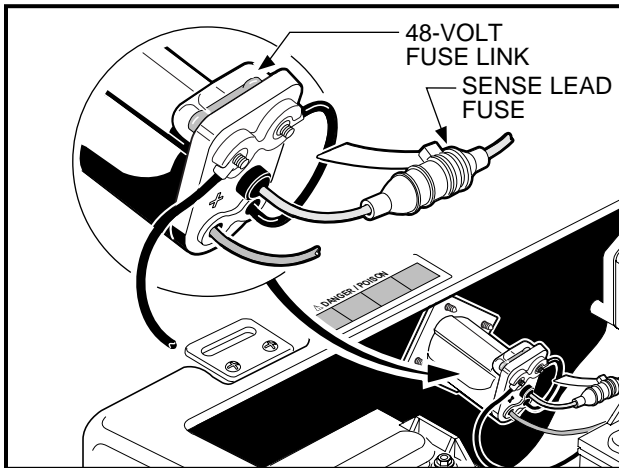

Figure 13 Receptacle Fuse Link
**Villager vehicles:** As an additional feature to protect the batteries and charging circuit from an overload, the electric vehicle is equipped with a receptacle fuse link (**Figure 13, Page 28**). If the charger does not come on when the vehicle is placed on charge, visually inspect the fuse link. **See following WARNING.**
- NEVER MODIFY WIRING TO BYPASS THE GRAY SENSE LEAD FUSE (**FIGURE 13, PAGE 28**).